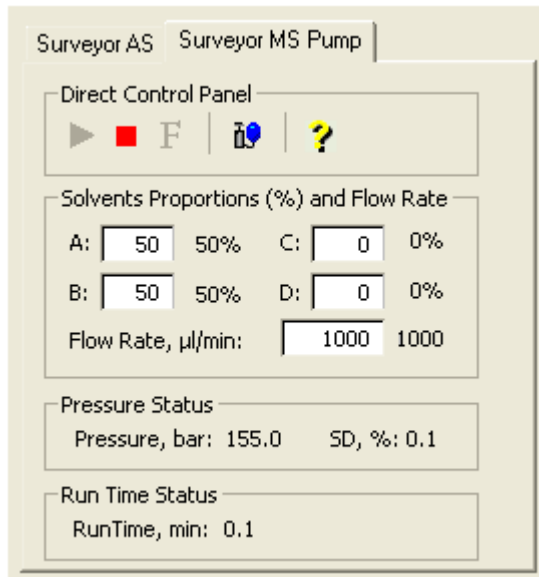

Figure 8-2. Inlet Direct Control view, showing pump On
- a. In Tune Master, on the Control / Scan Mode toolbar, click on the AS/LC Direct Control button to display the Inlet Direct Control view in the top right corner of the workspace. See Figure 8-2.